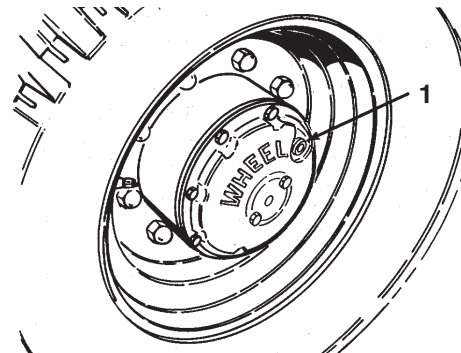

Figure 55
1. With machine on level surface, position wheel so the check/drain plug is at either three or nine o'clock position (Fig. 55).
3. When oil has drained, position wheel so plug hole is at three or nine o'clock position (Fig. 55).